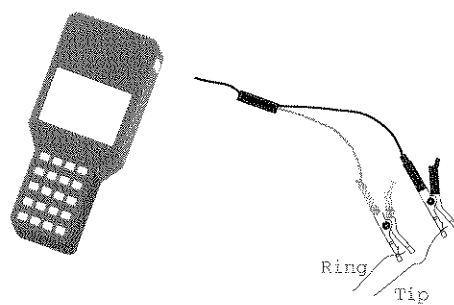

Figure 4-13 Connecting to the Cable Pair
- 4) Connect to the cable pair. A common method for connecting uses an RJ-45 to alligator clip cable. Plug the RJ-45 into the jack on the right side of the SunSet (labeled DMM/TDR/LINE). Use the alligator clips to clip directly to the cable pair. Refer to Figure 4-13.